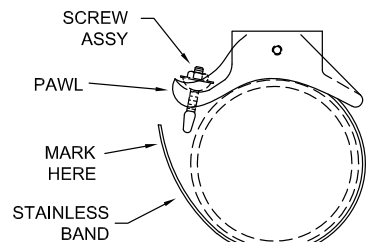
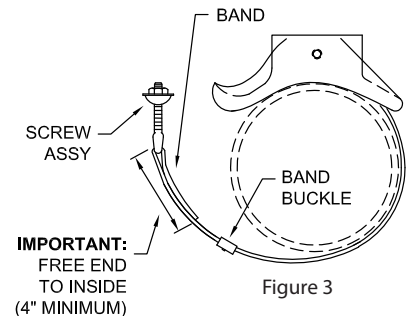

Figure 2
Figure 3
2. Bend stainless band around arm and mark on band at the point where band makes contact with the slotted end of the screw assembly. (Figure 2).
3. Slide Band Buckle on band with setscrew to the outside. (Figure 3). Bend band to the inside at point where mark was made in Figure 2 and slide Screw Assembly on band. (Figure 3).
4. If free end of band is too long to wrap inside of band, cut off extra length. **NOTE: MAKE CERTAIN FREE END IS TURNED TO THE INSIDE AND IS A MINIMUM OF 4" IN LENGTH.** (Figure 3).